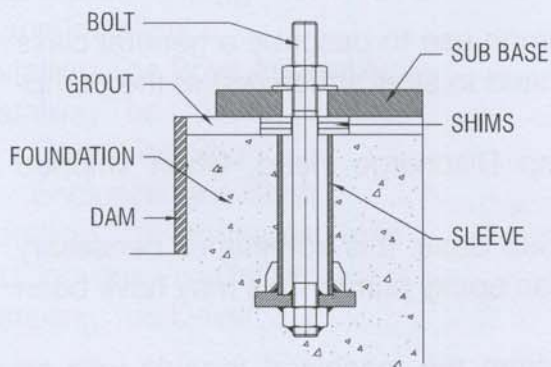

Fig. 1
3. The foundation must be of adequate strength to support the complete weight of the pump, plus the weight of the liquid passing through it. A typical installation will have bolts with a pipe sleeve 2 1/2 times the bolt diameter embedded in the concrete, sized and located in accordance with the dimensions given on the Pump Certified Outline Drawing. The pipe sleeve allows movement for final positioning of the foundation bolts to conform to the holes in the Sub Base flange. Fig.1 shows a typical installation.